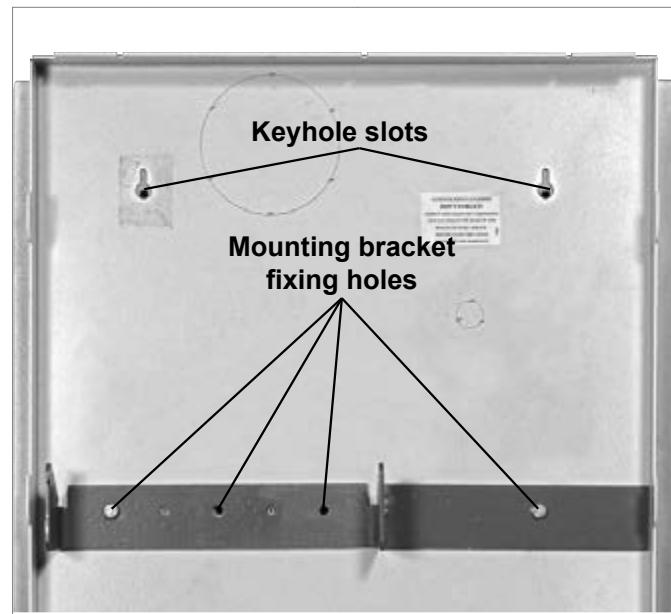

Figure 4-8: Mounting bracket and fixing holes in position on back panel
3. Locate and hold the back panel in the required position on the wall. Check it is level using a spirit level on the top flange. Mark position of the holes for the two keyhole slots. Remove the back panel from the wall. (See Figure 4-8).
10. Locate the mounting bracket on to the back panel, aligning the four holes in the bracket with those in the back panel (see Figure 4-8). Ensure that the mounting 'hooks' are pointing upwards and secure using the fixings supplied with the boiler.